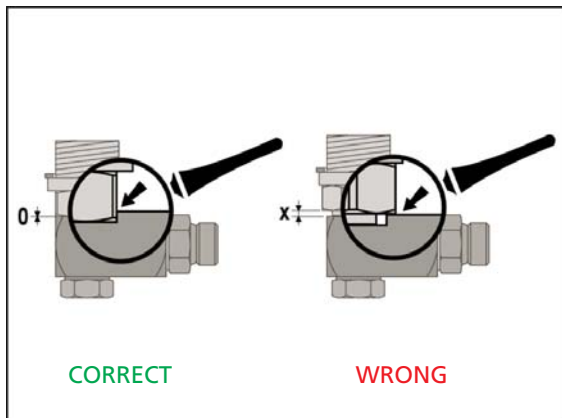

Figure 3.2 Sump coupling
4. Assemble and fasten the sump coupling correctly to ensure that it is leakproof and properly locked in the desired direction (Figure 3.2).